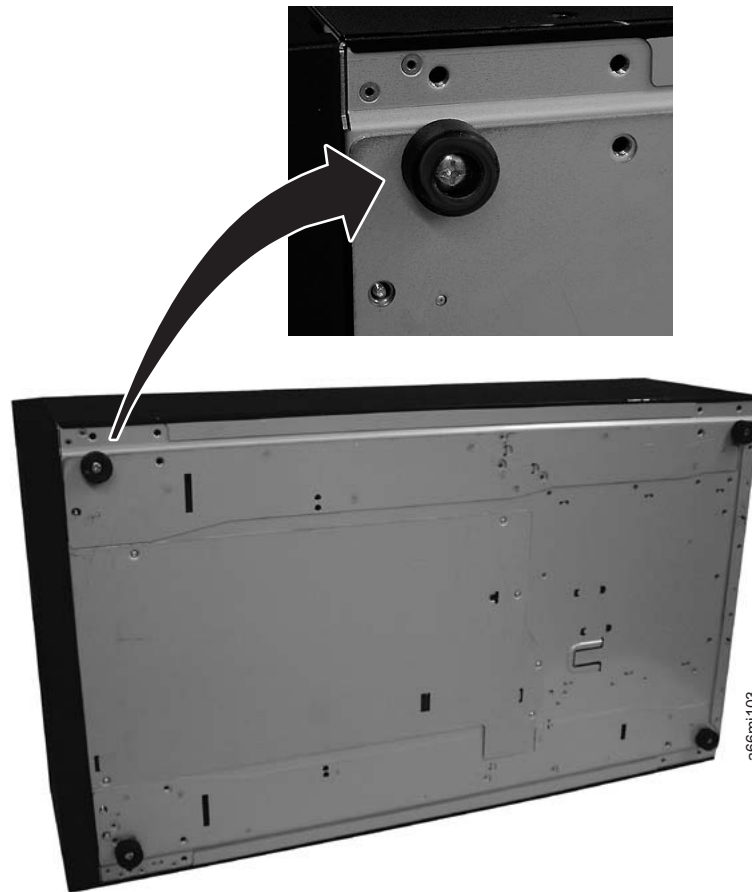

Figure 12-34. Foot pad Locations
2. Using a #2 Phillips screwdriver, install the foot pads on the bottom of the library chassis. See Figure 12-34 for foot pad locations.